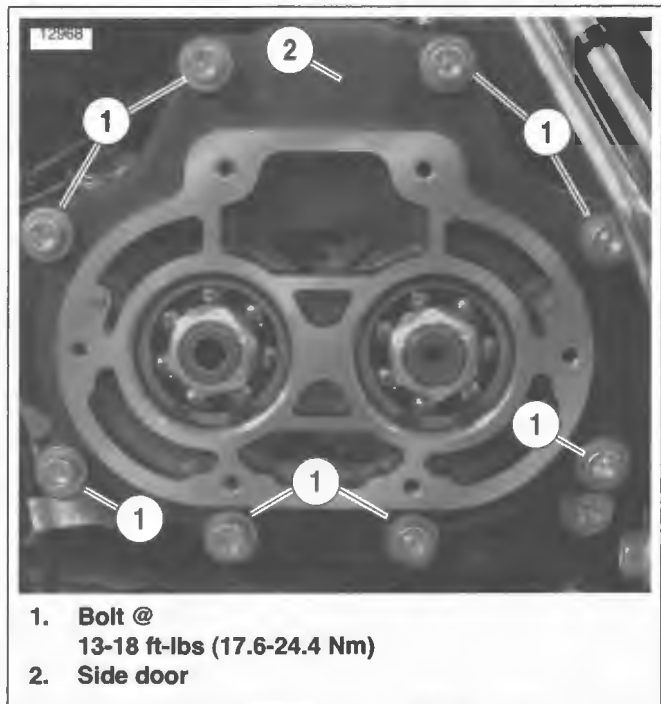

Figure 7-13. Side Door Hardware
9. See Figure 7-13. Remove the transmission side door mounting hardware. Pry the side door loose and remove side door, mainshaft, countershaft and shifter cam from transmission case as an assembly. Discard gasket.